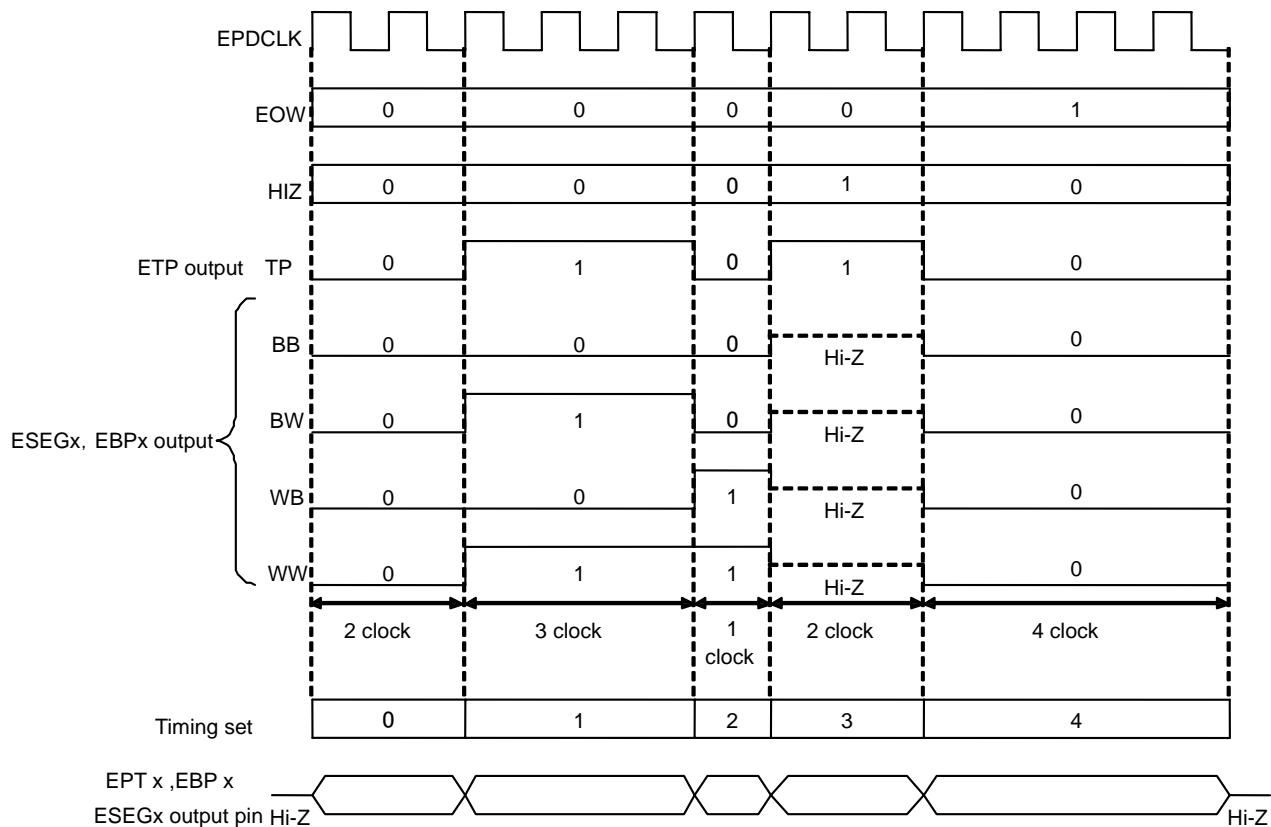

Figure 7.6.6.1 Display waveform example (corresponding to the setting in Table 7.6.6.2)
**Note:** Table 7.6.6.2 and Figure 7.6.6.1 are examples only for describing the relation between settings and waveforms, not used for the actual EPD drive.